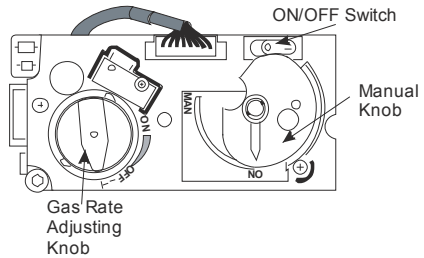

Figure 6
1. Ensure that gas is available at the valve and the ON/OFF switch in the ON position (→). (See **Figure 6**)